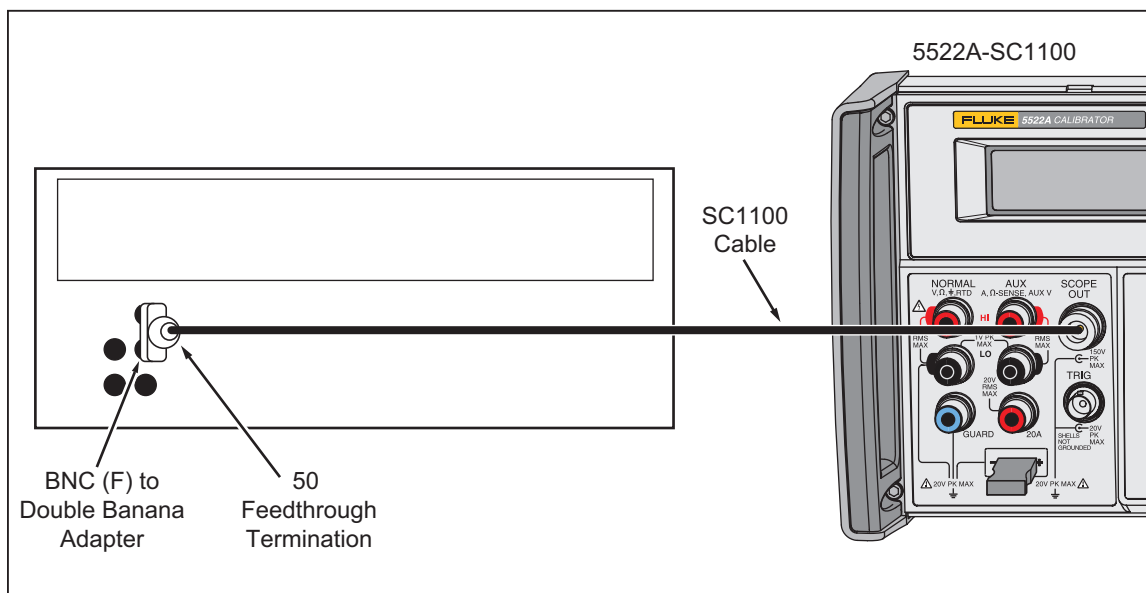

Figure 7-14. Wave Generator Verification Connections
1. Connect the equipment as shown in Figure 7-14.